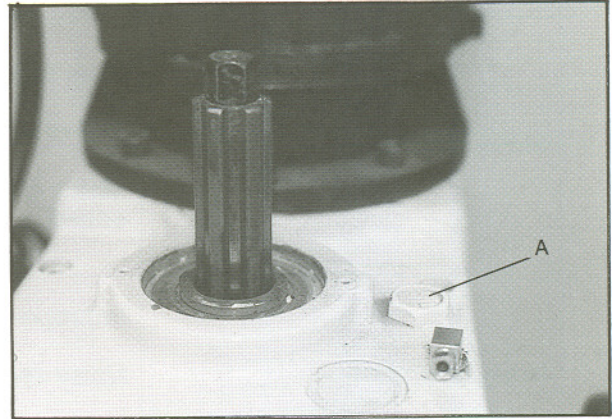

Fig. 18
7. Remove the filler plug (A, Fig. 18).
10. Pour one (1) gallon of new lubricant (Mobil DTE® Oil Heavy Medium) through the filler hole.